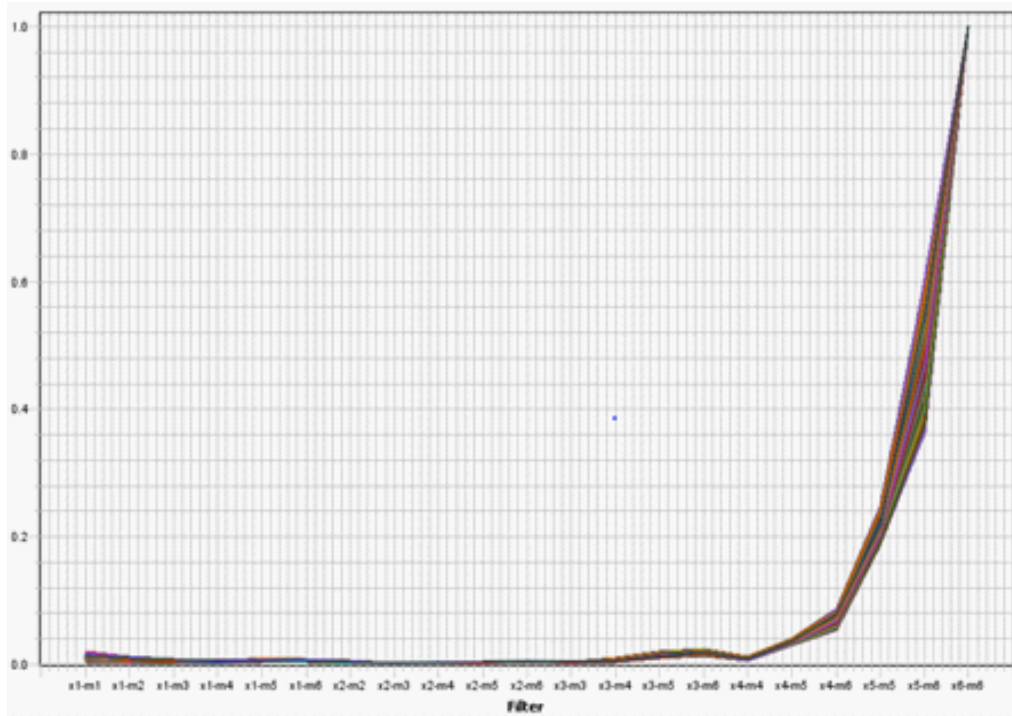

Figure 1 Example Cy® 5.5 calibration plot.
2. Review the Calibration plot (see Figure 1) and Calibration QC Status output.